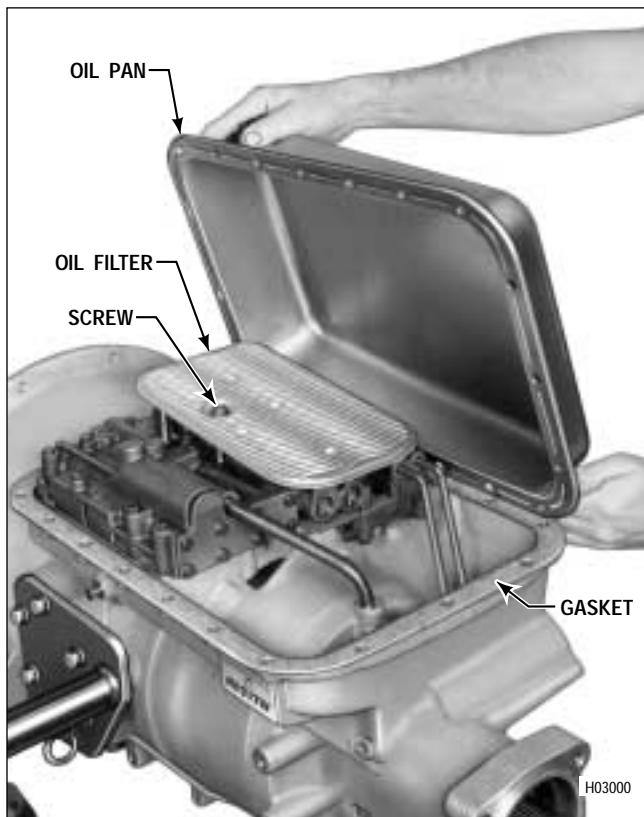

Figure 7-35. Installing Transmission Oil Pan
(1) Position the pan gasket on the transmission housing, aligning its bolt holes with those in the housing (Figure 7-35).